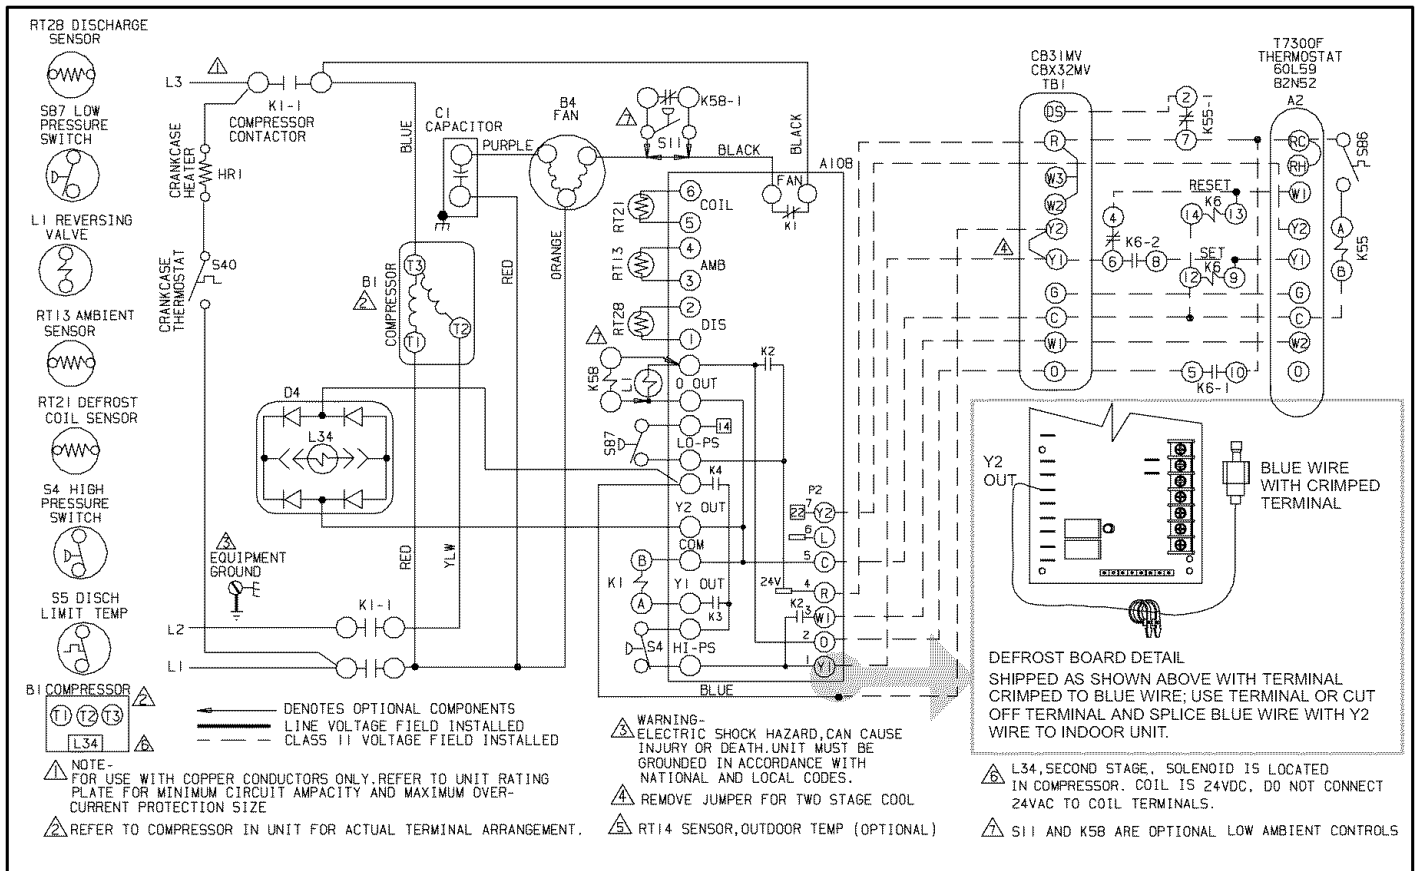

Figure 28. Typical Wiring Diagram
4. Install low voltage wiring from outdoor to indoor and from thermostat to indoor unit (figure 28).